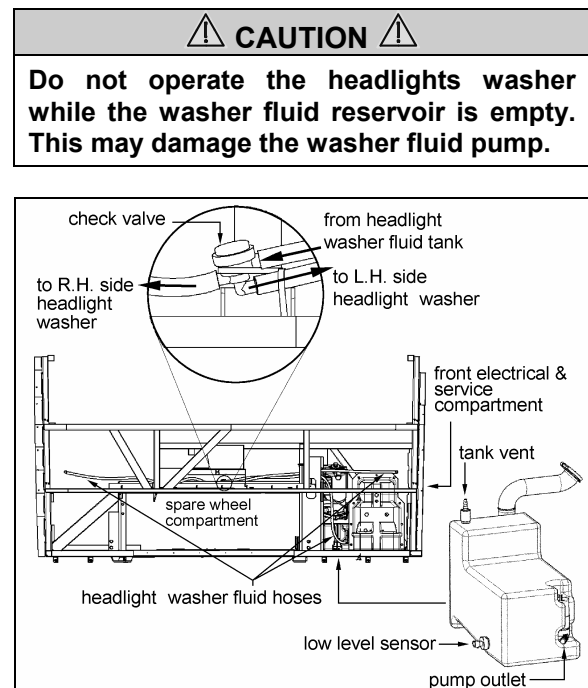

FIGURE 34: HEADLIGHT CLEANING SYSTEM
Turn the multifunction lever forward to activate lower windshield wipers (item 2, fig. 34). The first position operates the wipers at low speed and the second position operates the wipers at high speed. Turning the lever backwards will operate the wipers in the intermittent mode.
To activate the upper windshield washer pump, depress and hold the rocker switch on dashboard L.H. side (item 2, fig. 34). The upper wipers will come on automatically and will shut off a few seconds after releasing the rocker switch. The lower windshield washer pump is electrically operated and is controlled by a washer control ring on the multifunction lever (item 1, fig. 34).